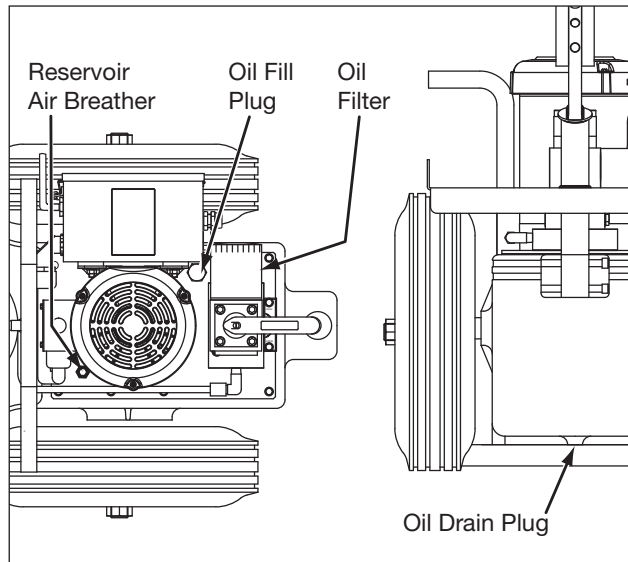

Figure 7, Oil Change
6.3 Changing the Oil (See Figure 7)
4. Remove, clean and reinstall the reservoir air breather. It is mounted on the reservoir top cover plate. See Figure 7 for location.